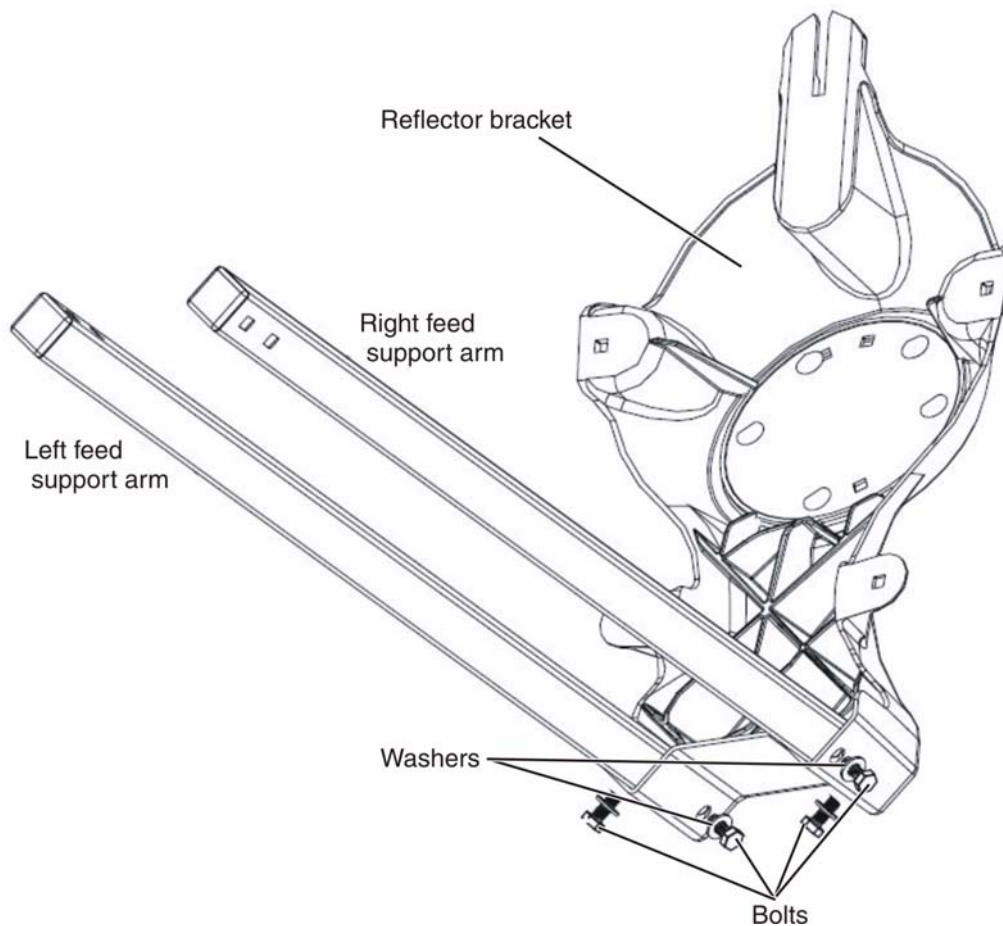

Figure 13: Attaching the feed support arms to the reflector bracket
| 5/16-inch x 3/4-inch hex head self-tapping bolts   | 4        | Feed support arms to reflector bracket                       | Figure 13 on page 21                      |
1. Insert the feed support arms into the two sockets at the bottom of the reflector bracket, as shown in Figure 13.